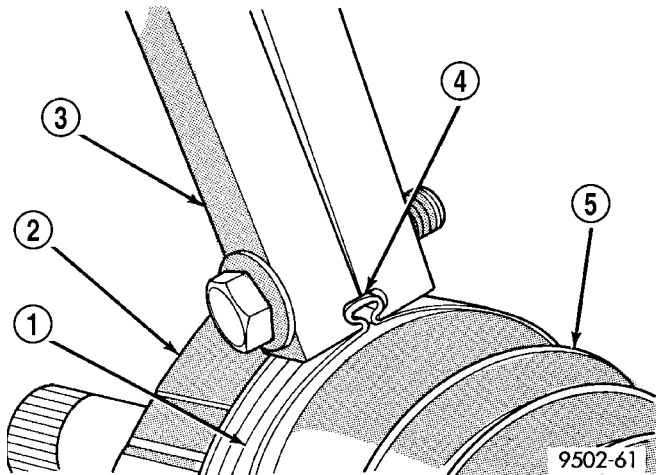

Fig. 23 Sealing Boot Retaining Clamp Installed
(2) Tighten nut on crimping tool C-4975-A until jaws on tool are closed completely together, face to face (Fig. 23).